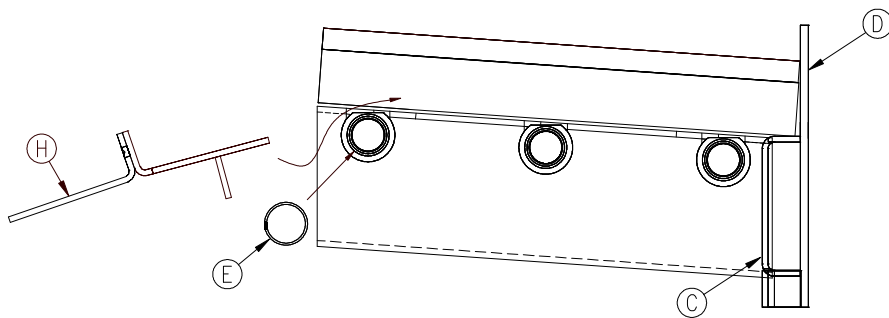

Figure 4.4c
- Install the baffle support/extension (H) ensuring that it fits between the front risers and hold it in place. Install the front secondary air tube as in figure 3.4c ensuring air holes face forward. Install the cotter pins as in fig 4.4c. Installing the front secondary air tube (E) will stabilize baffle assembly during the next step.